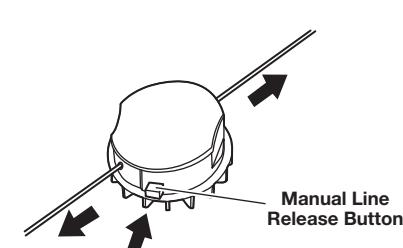

Fig. 14
- Press and release the manual line release button while gently pulling both lines until they reach the line cutting blade (Fig. 14).